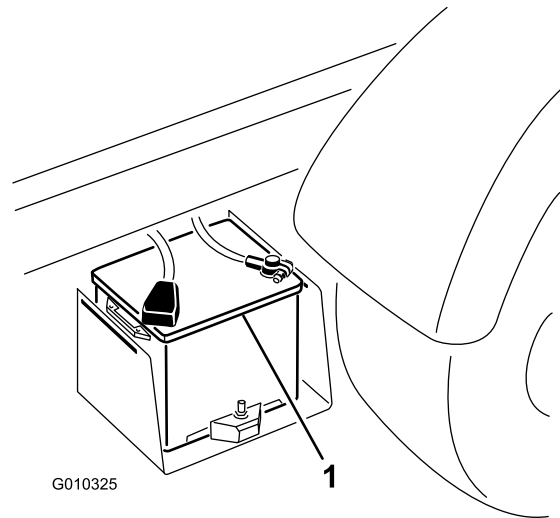

Figure 45
2. Connect a jumper cable between the positive posts of the two batteries (Figure 45). The positive post may be identified by a + sign on top of the battery cover.